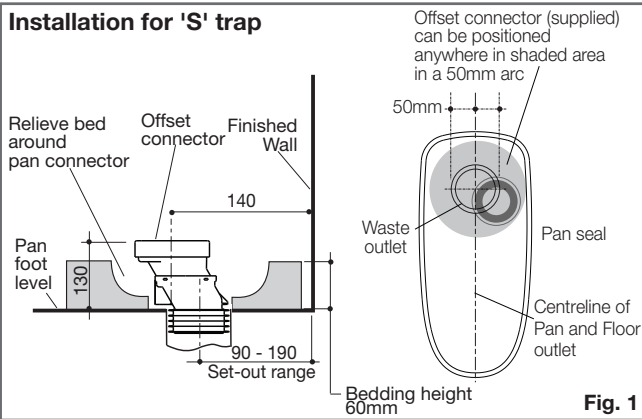
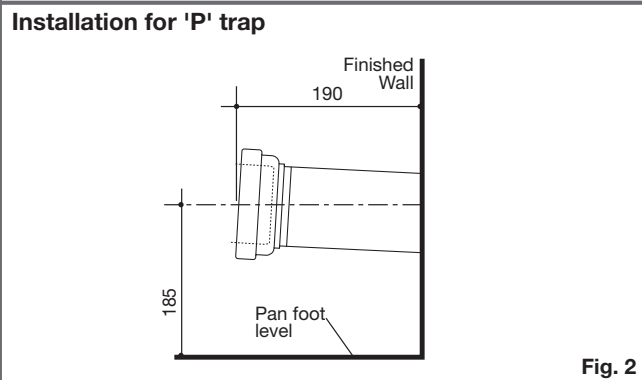

Fig. 1
Fig. 2
The Cameo 'S' trap pan installation is detailed in **Fig. 1** and 'P' trap pan in **Fig. 2**. The recommended set-out for 'S' trap installations is 140mm from the finished wall. The 50mm offset connector (supplied) is available to achieve a set out of 140mm, where the soil pipe is between 90mm min. and 190mm max. from the finished wall. The connector also allows for sideways positional movement, as detailed in **Fig. 1**.
- 3- Prepare bedding sand cement mixture 3:1 to depth of 60mm as detailed in **Fig. 1**.